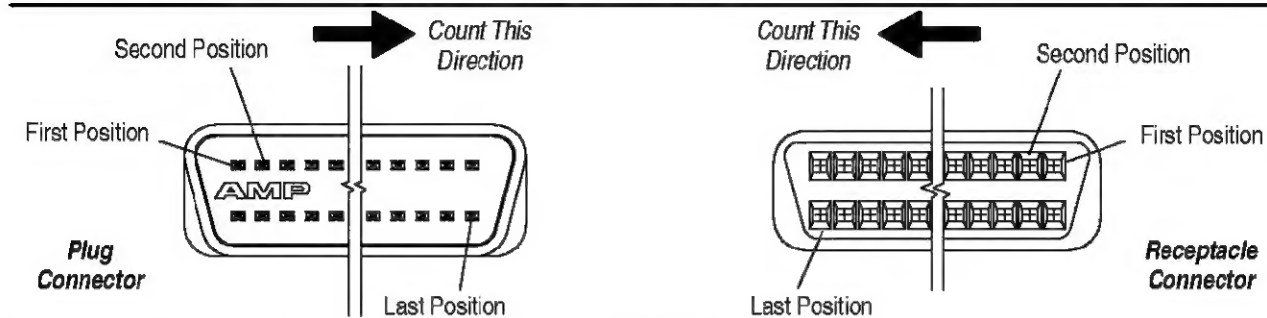

Figure 2
- Renumbered Figures 2 through 21
All AMPLIMITE .050 Series Connectors are marked to indicate contact position no. 1 only. Pins are numbered in plug connectors from left to right, top row first. Sockets are numbered in receptacle connectors as a mirror image of the plugs: right to left, top row first. Figure 2 shows typical assignments.
The connectors in Figure 2 are viewed from the mating interface.